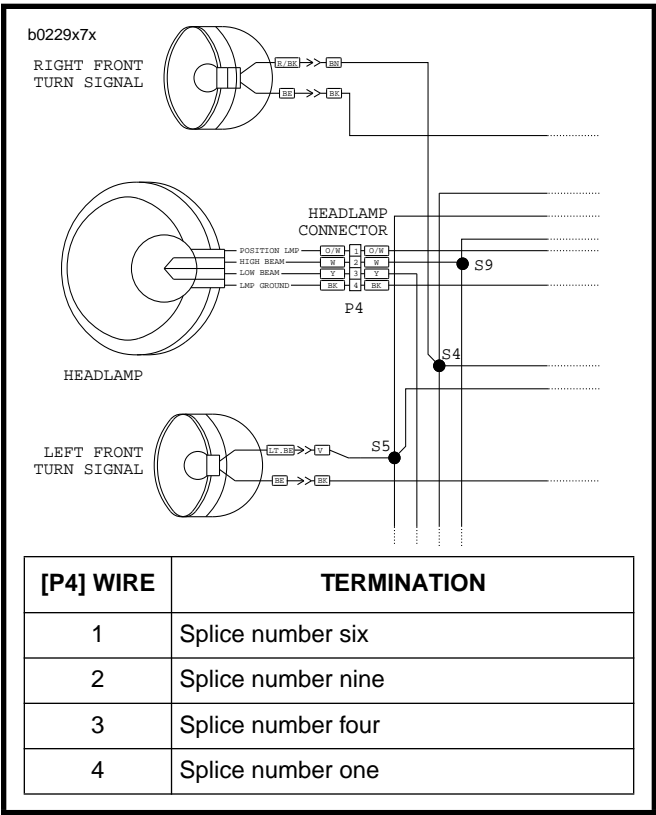

Figure 7-34. Headlamp Connector [P4]
4. See Figure 7-34. Cut as many cable straps as necessary to access headlamp connector [P4] along right side frame tube. Detach connector [P4] from wiring harness.
2. See Figure 7-34. Route headlamp wire harness between front forks and along right side frame tube. Attach connector [P4] to wiring harness. Fasten wiring harness to frame with **new** cable straps.
2. Attach bullet connectors to wiring harness as shown in Figure 7-34.